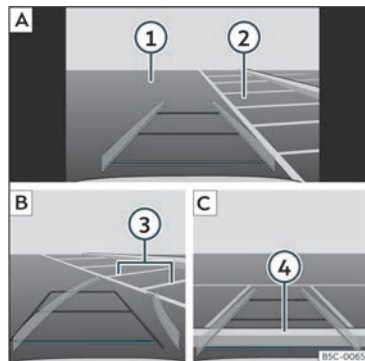

Fig. 185 Display on the Infotainment system screen.: parking with reverse assist.
Key to the Fig. 185:
- Place the vehicle in front of the parking space >>> **Fig. 185** ② **A**.
- Reverse while turning the steering wheel so that the yellow lines enter the parking space. The green and yellow lines must match the side boundary lines ③ **B**.
- Stop the vehicle when the red line has reached the rear boundary ④ **C**.